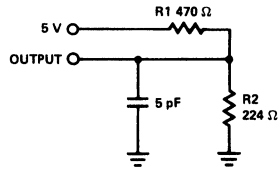

Figure 1b
- Transition is measured at steady state HIGH level - 500 mV or steady state LOW level + 500 mV on the output from 1.5V level on the input with load shown in Figure 1b.